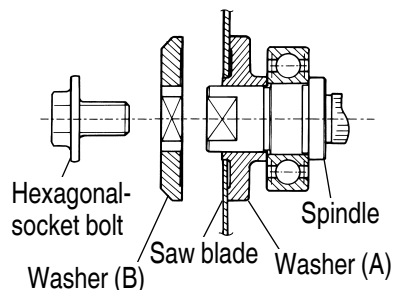

Fig. 14
- (1) Thoroughly remove any sawdust which has accumulated on the spindle, bolt and washers.
- (2) As shown in **Fig. 14**, the side of Washer (A) with a projected center the same diameter as the inner diameter of the saw blade and the concave side of Washer (B) must be fitted to the saw blade sides.
* Washer (A) is supplied for 2 types of saw blades with the hole diameters of 16 mm and 30 mm. (When buying the Circular Saw, one type of washer (A) is supplied.)